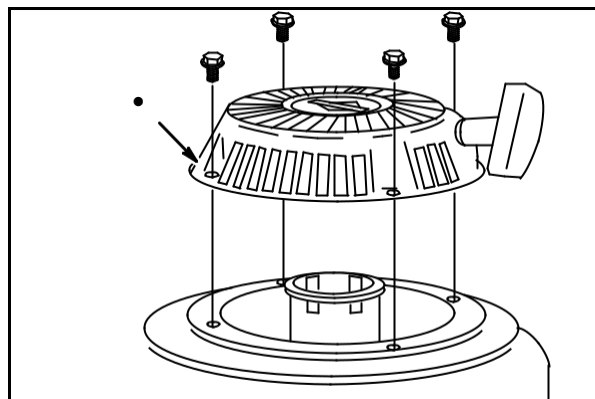

Fig. 50
Remove four screws and rewind starter (1), **Fig. 50**.